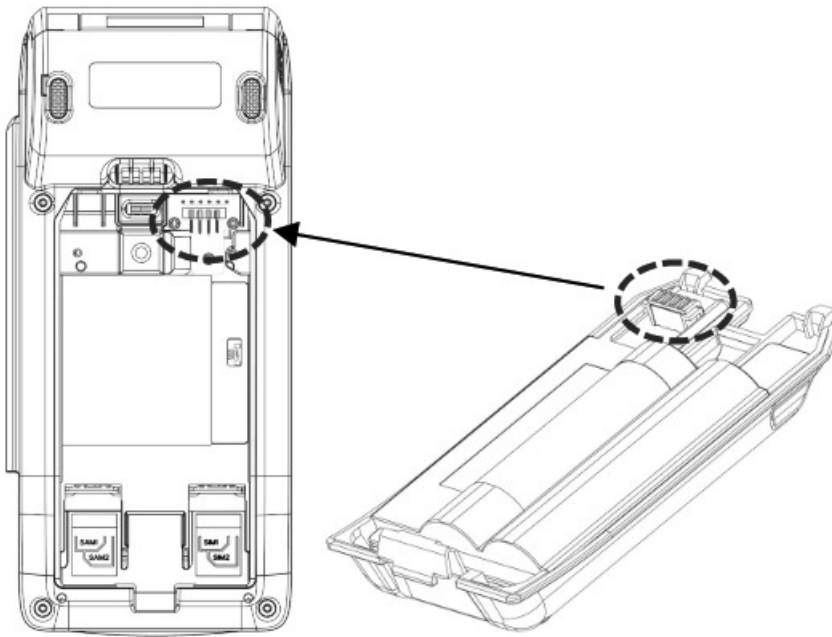

Figure 10
**STEP 1:** Insert the battery connector into AT100 as Figure 10.